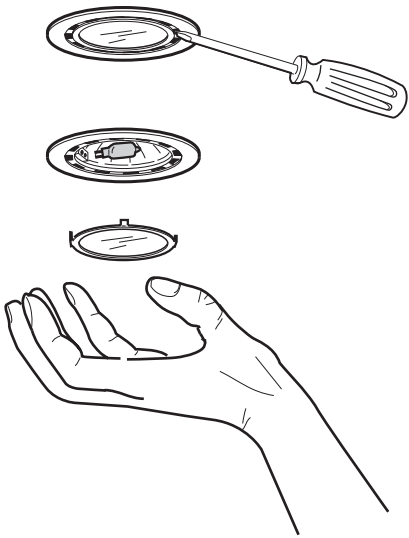

Figure 4: Halogen Light Replacement
- Using a flat edge from a screwdriver or equivalent tool, pry loose the lens cover as shown in Figure 4.